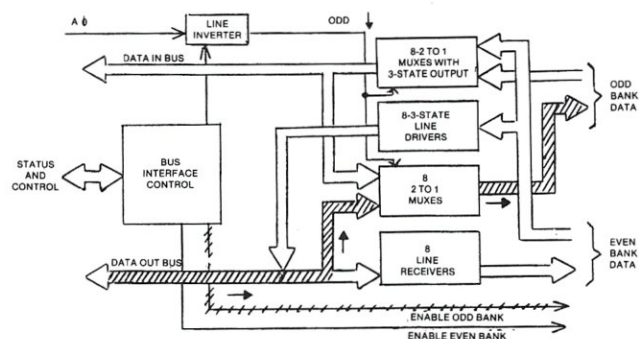
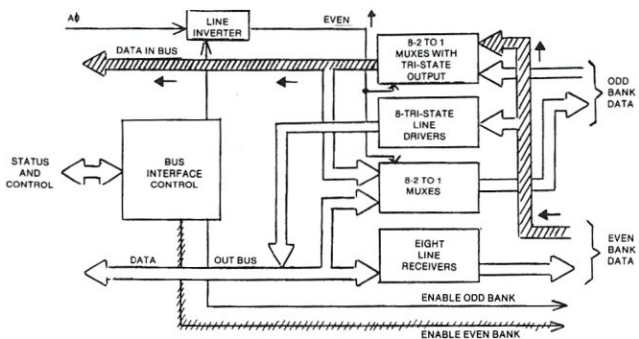

FIGURE 7
FIGURE 8
Figure 7 shows an 8-bit write to an odd address. Figure 8 depicts an 8-bit read from an even address. Note that, here, the High Order (IN) data lines are used.